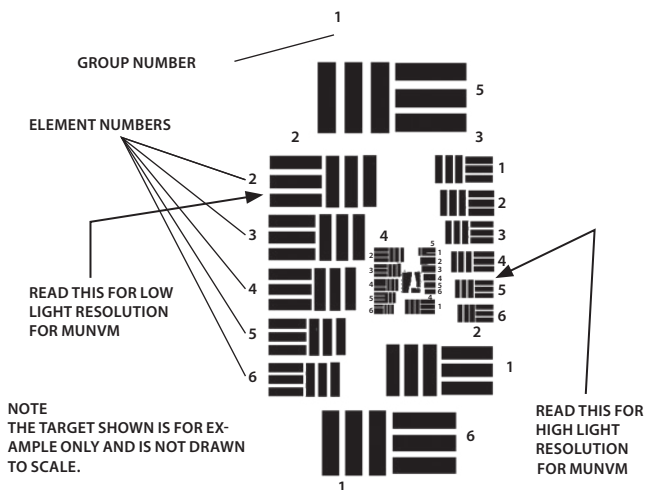

Figure 3-2. TS-4348/UV Test Set Pattern
- (1) Place the HIGH/LOW switch on the test set to the LOW position.
- (2) Turn off the room light and let your eyes adjust to the dark.
- (3) Turn on the test set by setting the "II/OFF/III" switch to the "III" position.
- (4) Turn on the monocular and insert it into the test port on the test set.
- (5) Look through the monocular and view the projected pattern (see Figure 3-2). If necessary, focus the eyepiece lens and then the objective lens to obtain the sharpest image.
- (6) The MUNVM monocular must be able to resolve Group 2, Element 2, under low light conditions to pass the test. If the MUNVM does not pass the test, return it to maintenance for repair. The operator must document resolution failures on the maintenance record.
- (7) Flip the HIGH/LOW switch to the HIGH position.
- (8) Again, look through the monocular and view the projected pattern (see Figure 3-2). If necessary, refocus the objective lens and then the eyepiece lens to obtain the sharpest image.
(9) The MUNVM must be able to resolve Group 3, Element 5, under high light conditions to pass the test. If the monocular does not pass the test, send it to a higher level of maintenance for repair.